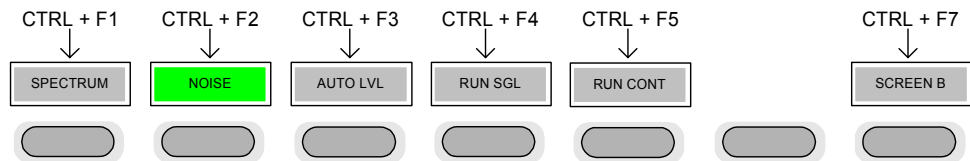

Fig. 1-5 Quick Access to Hotkeys
CTRL keys Used to activate hotkeys. Each of the seven hotkeys is allocated a different function (F) key. To access these hotkeys, press CTRL and the corresponding F key together (see Fig. 1-5):